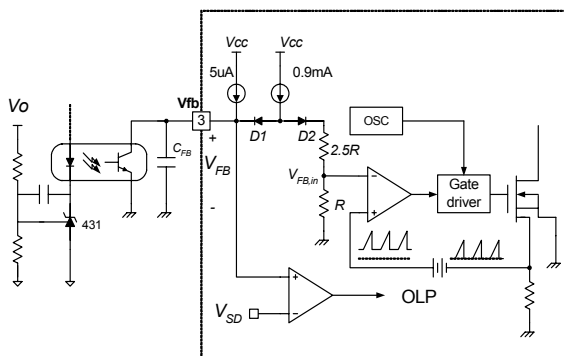

Figure 5. Pulse Width Modulation (PWM) Circuit
2. Feedback Control : The FSDx0265RN employs current mode control, as shown in Figure 5. An opto-coupler (such as the H11A817A) and shunt regulator (such as the KA431) are typically used to implement the feedback network. Comparing the feedback voltage with the voltage across the Rsense resistor plus an offset voltage makes it possible to control the switching duty cycle. When the KA431 reference pin voltage exceeds the internal reference voltage of 2.5V, the optocoupler LED current increases, the feedback voltage Vfb is pulled down and it reduces the duty cycle. This event typically happens when the input voltage is increased or the output load is decreased.
4.4 Over Voltage Protection (OVP) : In the event of a malfunction in the secondary side feedback circuit, or an open feedback loop caused by a soldering defect, the current through the opto-coupler transistor becomes almost zero (refer to Figure 5). Then, V_FB climbs up in a similar manner to the over load situation, forcing the preset maximum current to be supplied to the SMPS until the over load protection is activated. Because excess energy is provided to the output, the output voltage may exceed the rated voltage before the over load protection is activated, resulting in the breakdown of the devices in the secondary side. In order to prevent this situation, an over voltage protection (OVP) circuit is employed. In general, V_{CC} is proportional to the output voltage and the FPS uses V_{CC} instead of directly monitoring the output voltage. If V_{CC} exceeds 19V, OVP circuit is activated resulting in termination of the switching operation. In order to avoid undesired activation of OVP during normal operation, V_{CC} should be properly designed to be below 19V.